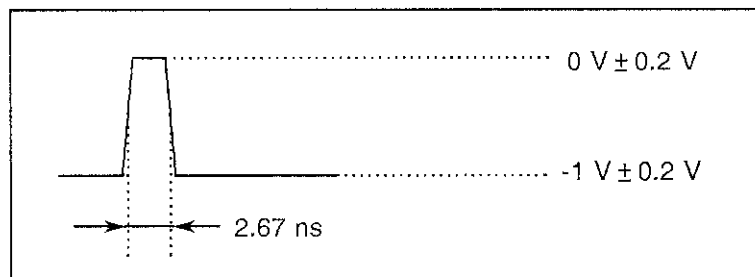

Figure 9-2 Waveform of the PATTERN TRIGGER Output
- (6) If the waveform on the oscilloscope is a square wave which is similar to the one shown in Figure 9-2, the PATTERN TRIGGER signal is evaluated as normal.